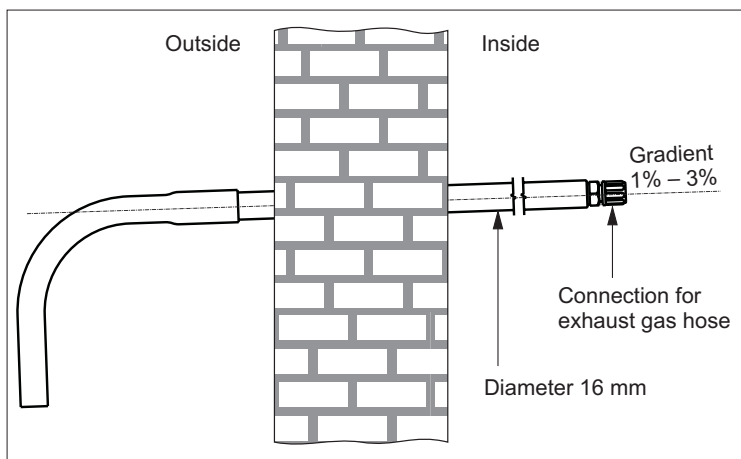

Fig. 5: Wall duct – installation in an external wall (diagram)
- If the exhaust gas hose extends through an external wall to run outside, it must have a large diameter in the area near the wall and must run through the wall on a gradient (fig. 5).
12. Observe the specifications in section 4.1.2, particularly fig. 5, if the exhaust gas hose extends through an external wall to run outside.